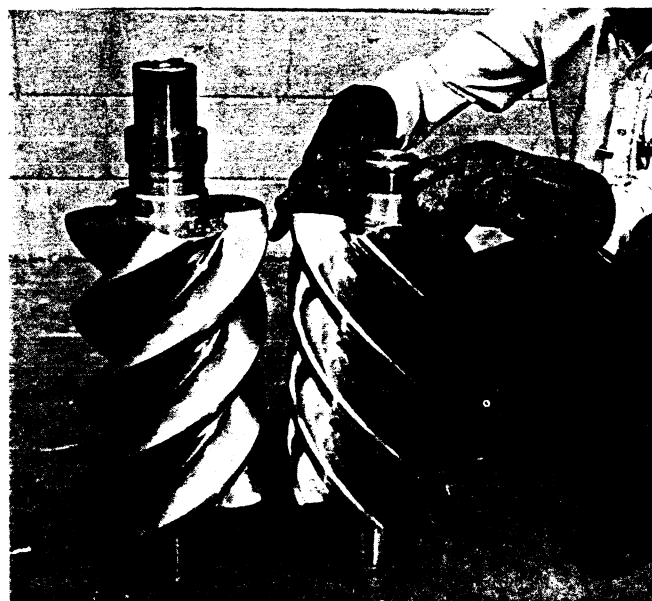

Figure 23
7. Fit roller bearing inner races to intake end of each rotor. Refer to Figure 23. Heat bearing races in oil to 250°F for at least 30 minutes to facilitate installation — do not use a hot plate; do not use a flame; do not heat above 275°F. Install snap ring to intake end